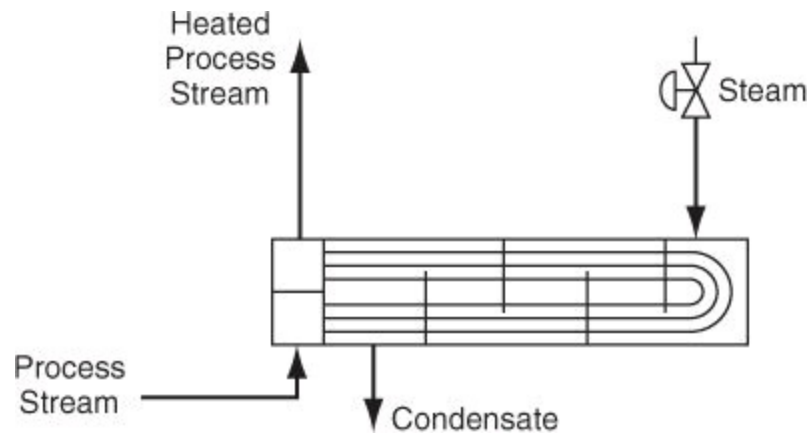

Figure P3.1.14
*****3.1.14.** Heat exchangers are used to transfer heat from one fluid to another fluid, such as from a hotter fluid to a cooler fluid. Figure P3.1.14 shows a heat exchanger that transfers heat from condensing steam to a process stream. The steam condenses on the outside of the heat exchanger tubes while the process fluid absorbs heat as it passes through inside of the heat exchanger tubes. The feed rate of the process stream is measured as 45,000 lb/h. The flow rate of steam is measured as 30,800 lb/h, and the exit flow rate of the process stream is measured as 50,000 lb/h. Perform a mass balance for the process stream. If the balance does not close adequately, what might be a reason for this discrepancy?